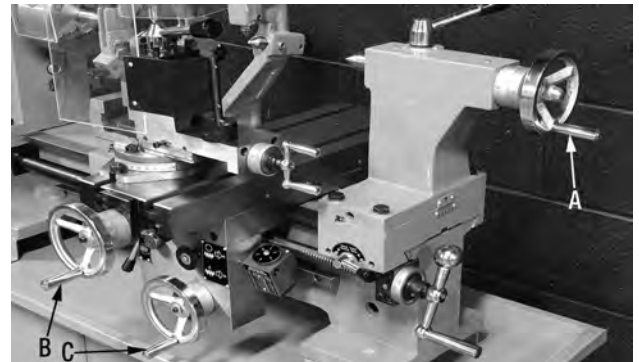

FIGURE 5
2. Install the handwheel handles (A, B, C) Fig.5, thread them into the handwheels and secure them using a screwdriver.